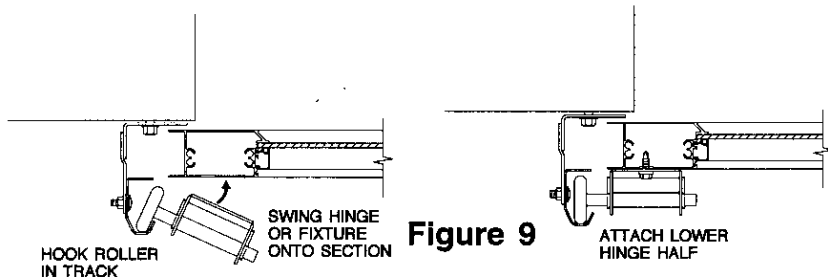

Figure 9
3. Insert rollers into corresponding loose end hinge. Hook roller into track and swing end hinge onto door section. See Figure 9.